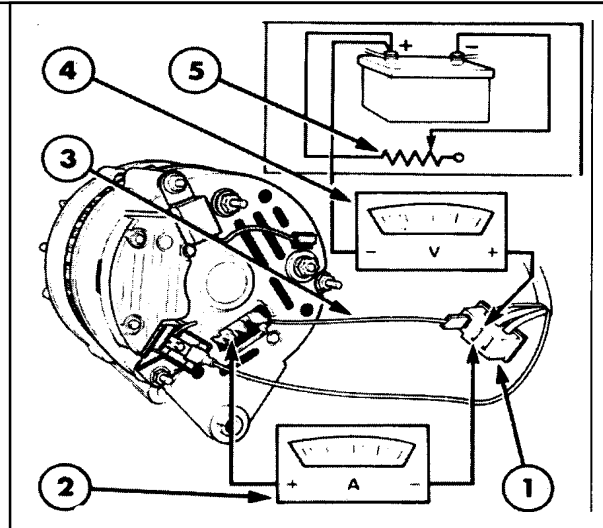

Figure 13
1. With reference to Figure 13. Ensure the key start switch is in the "OFF" position.